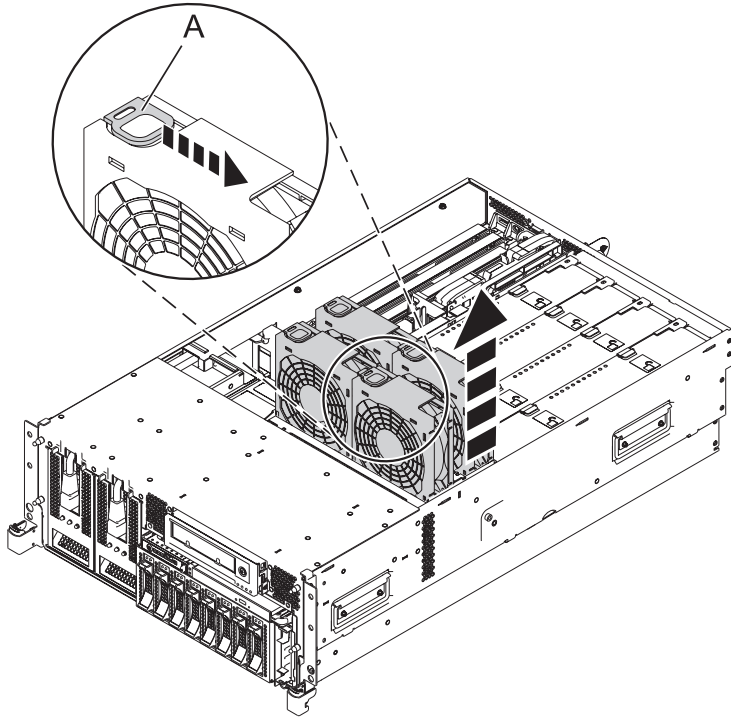

Figure 2. Removing the fan from the fan cage
- a. To remove the fans, squeeze the tab (A) and lift the fan out of the fan cage as shown in Figure 2 on page 5.